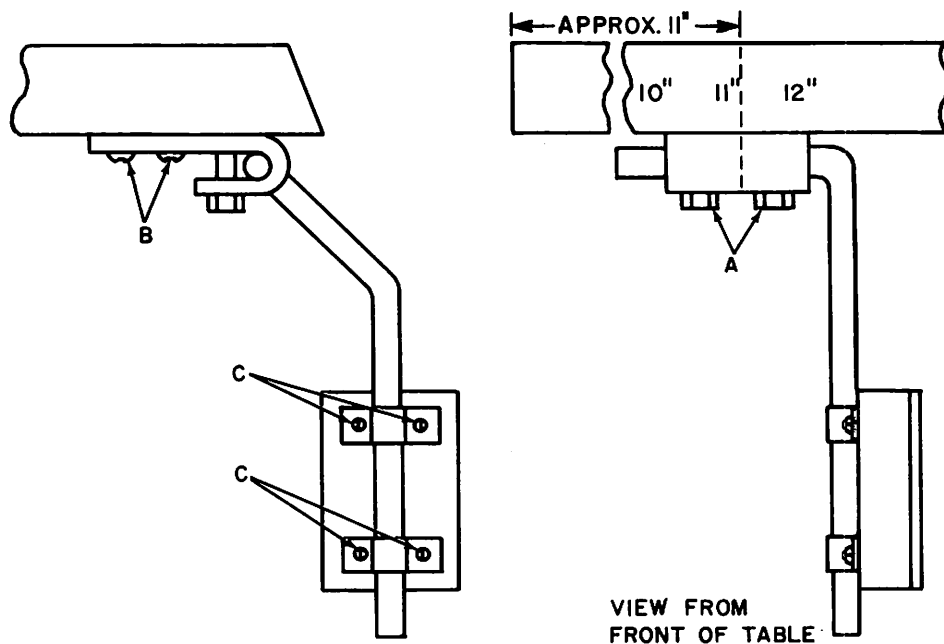

Figure 6....Knee Trim Switch Installation
#### 2-4-2-2. Knee Type (See Figure 6)
- (a) Locate and pilot drill holes for wood screws according to location shown in Figure 6.